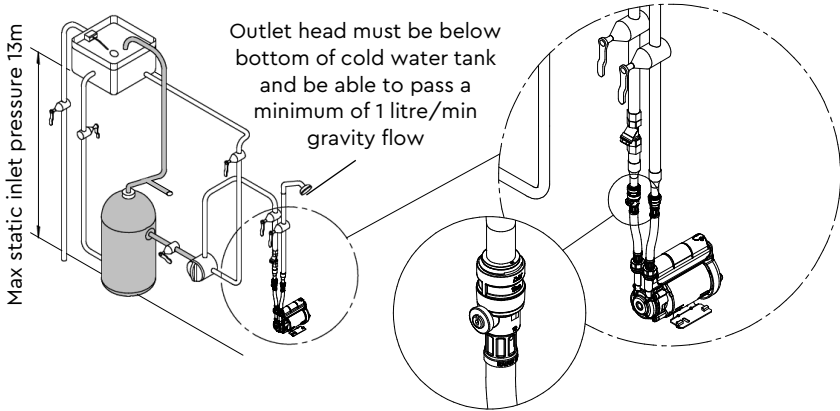
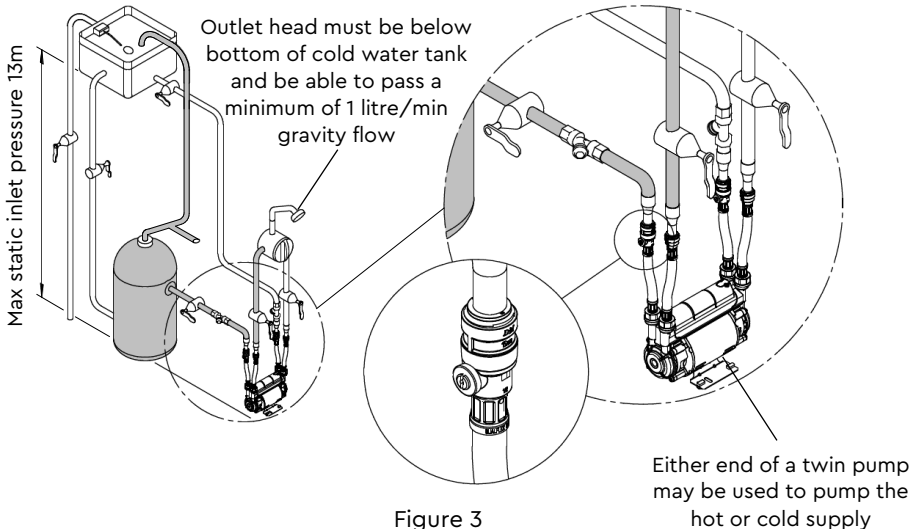

Figure 2
Figure 3
- b. The use of a Stuart Side Entry cylinder flange, which should have the addition of an inverted loop ("U" bend) of 350 mm minimum drop before rising to the pump, located as close as possible to the cylinder wall. This will ensure the pump receives an air free supply and the cylinder vents any air up the vent pipe and not the pump feed (Figure 2 and Figure 3).